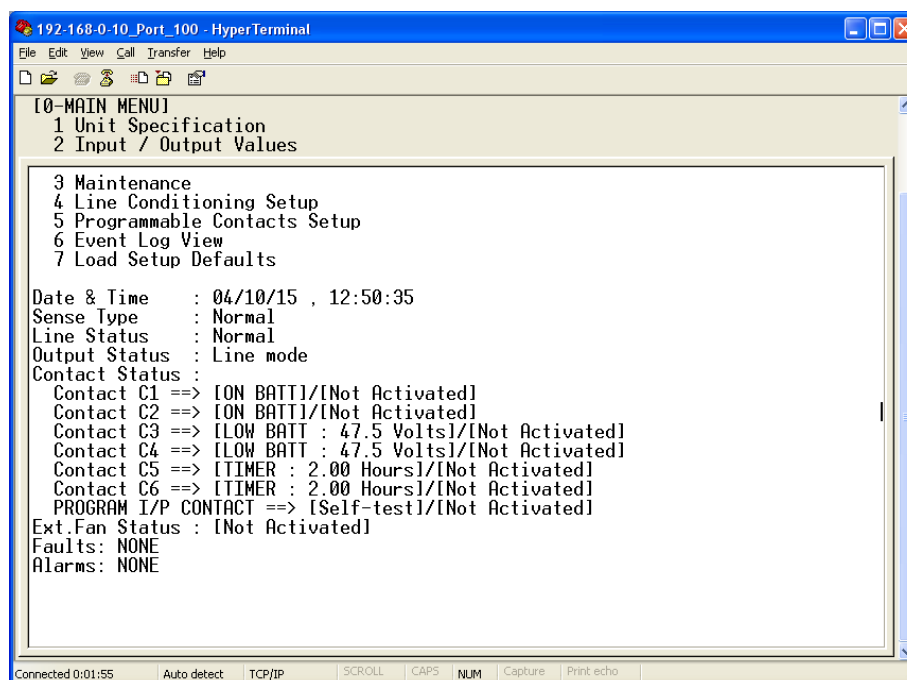

Figure 6-98: HyperTerminal Main Menu Screen
5. Go to the HyperTerminal Interface Screen and press “Enter” on the PC keyboard, as shown in Figure 6-98.